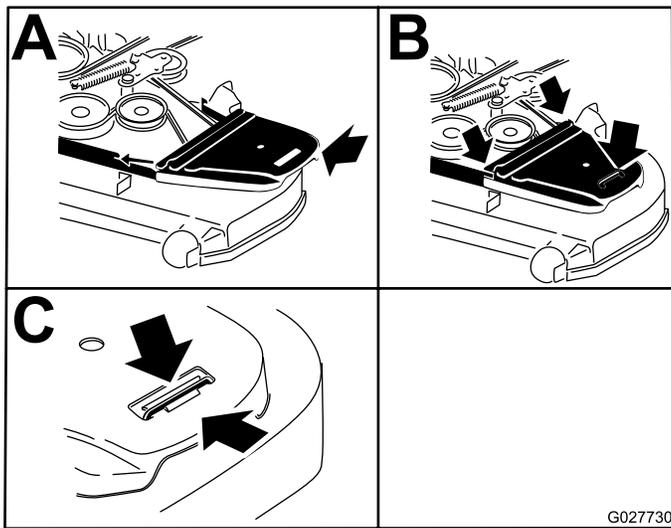

Figure 96
13. Install the belt covers (Figure 96).